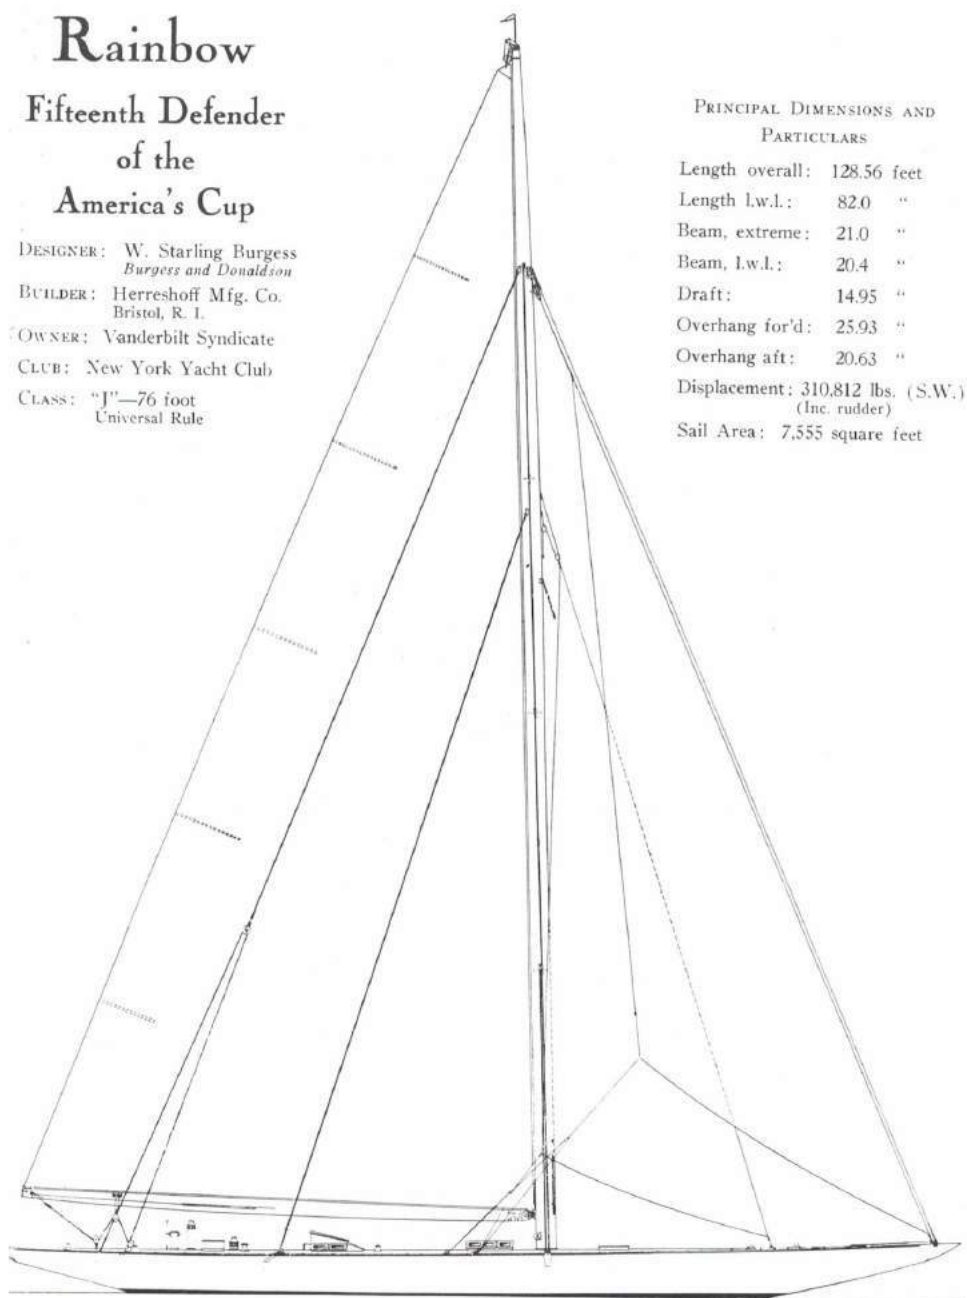

Fig.1: Rainbow profile and sail plan. Taken from "Enterprise to Endeavor" by Ian Dear
- 2) The displacement of the prototype Rainbow was 310,812 pounds (according to page 97 of “Enterprise to Endeavor” and Fig. 1).
mast and boom are each reduced by the scale factor, so the prototype's sail area is reduced by the square of the scale factor. Applying this to our example 1:23 Rainbow, again referring to Fig. 1: